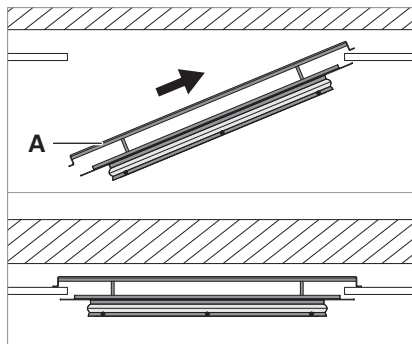

Fig. 2: Hanging the luminaire frame into the ceiling.
- ▶ Hang the two brackets **A** of the luminaire frame into the ceiling see Fig. 2.